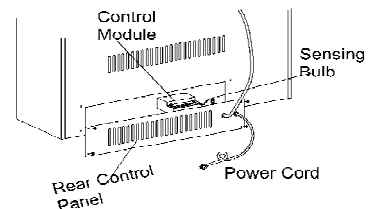
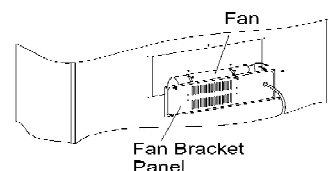
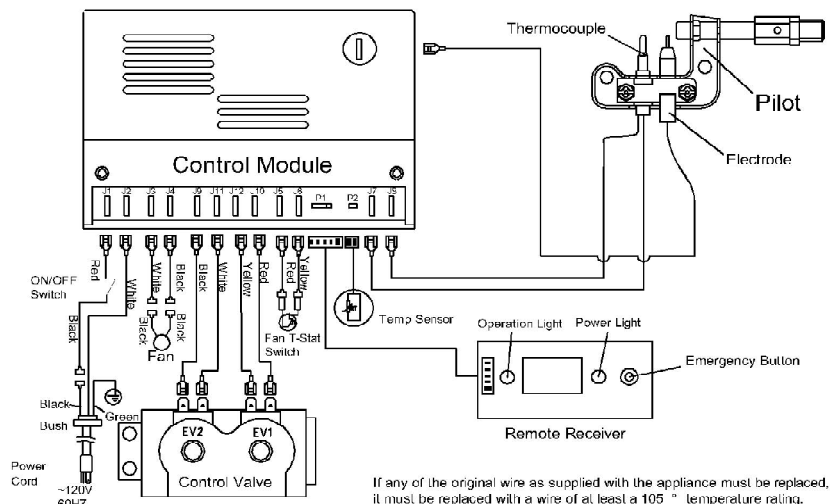

Figure 22 - Control Model
Figure 23- Fan
Figure 25-Remote Control System Diagram
2. Remove two screws and hex nuts, take out the control module. When installing, reverse the steps above. (See Figure 22 and Figure 25)
2. Mark or tag each wire removed for its exact reconnection. Remove the four screws from the fan. When installing, reverse the steps above. (See Figure 23 and Figure 25)